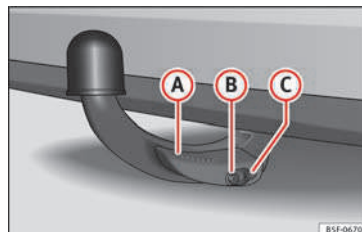

Fig. 185 Detachable ball properly attached.
- Lever (A) » Fig. 185 is fully raised.
- The release bolt (B) » Fig. 185 is sticking fully out (the red and green part is visible).
- Cover (C) » Fig. 185 is placed over the lock.